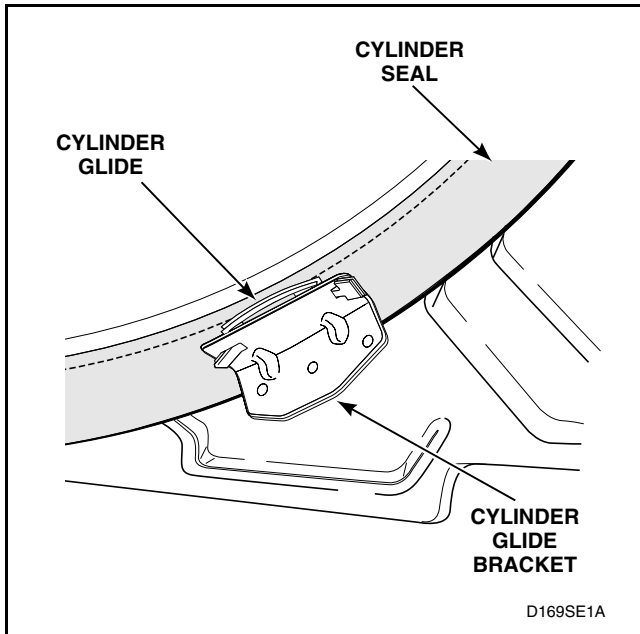

Figure 46
**NOTE:** When reassembling the front bulkhead to the cabinet, hold glides in position with finger tips on the edges of glides. Once bulkhead is in place, inspect the glide position with a mirror to insure the glides are aligned with the cylinder, making sure the tabs are visible. Refer to *Figure 46*.
- Cylinder glides and pads (Refer to *Figure 46*)
- Front cylinder seal (Refer to *Figure 46*)
**NOTE:** When reassembling the front bulkhead to the cabinet, hold glides in position with finger tips on the edges of glides. Once bulkhead is in place, inspect the glide position with a mirror to ensure the glides are aligned with the cylinder, making sure the tabs are visible. Refer to *Figure 46*.